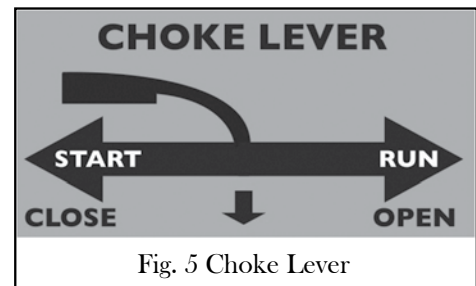

Fig. 5 Choke Lever
5. Move the choke lever to the CLOSE/START position (Fig. 5).
8. If engine fails to start, repeat step 7. **NOTE:** After repeated failed attempts to start the engine, please consult the troubleshooting guide before attempting to start the generator. If problems persist please call (800) 232-1195, M-F 8-5 CST.